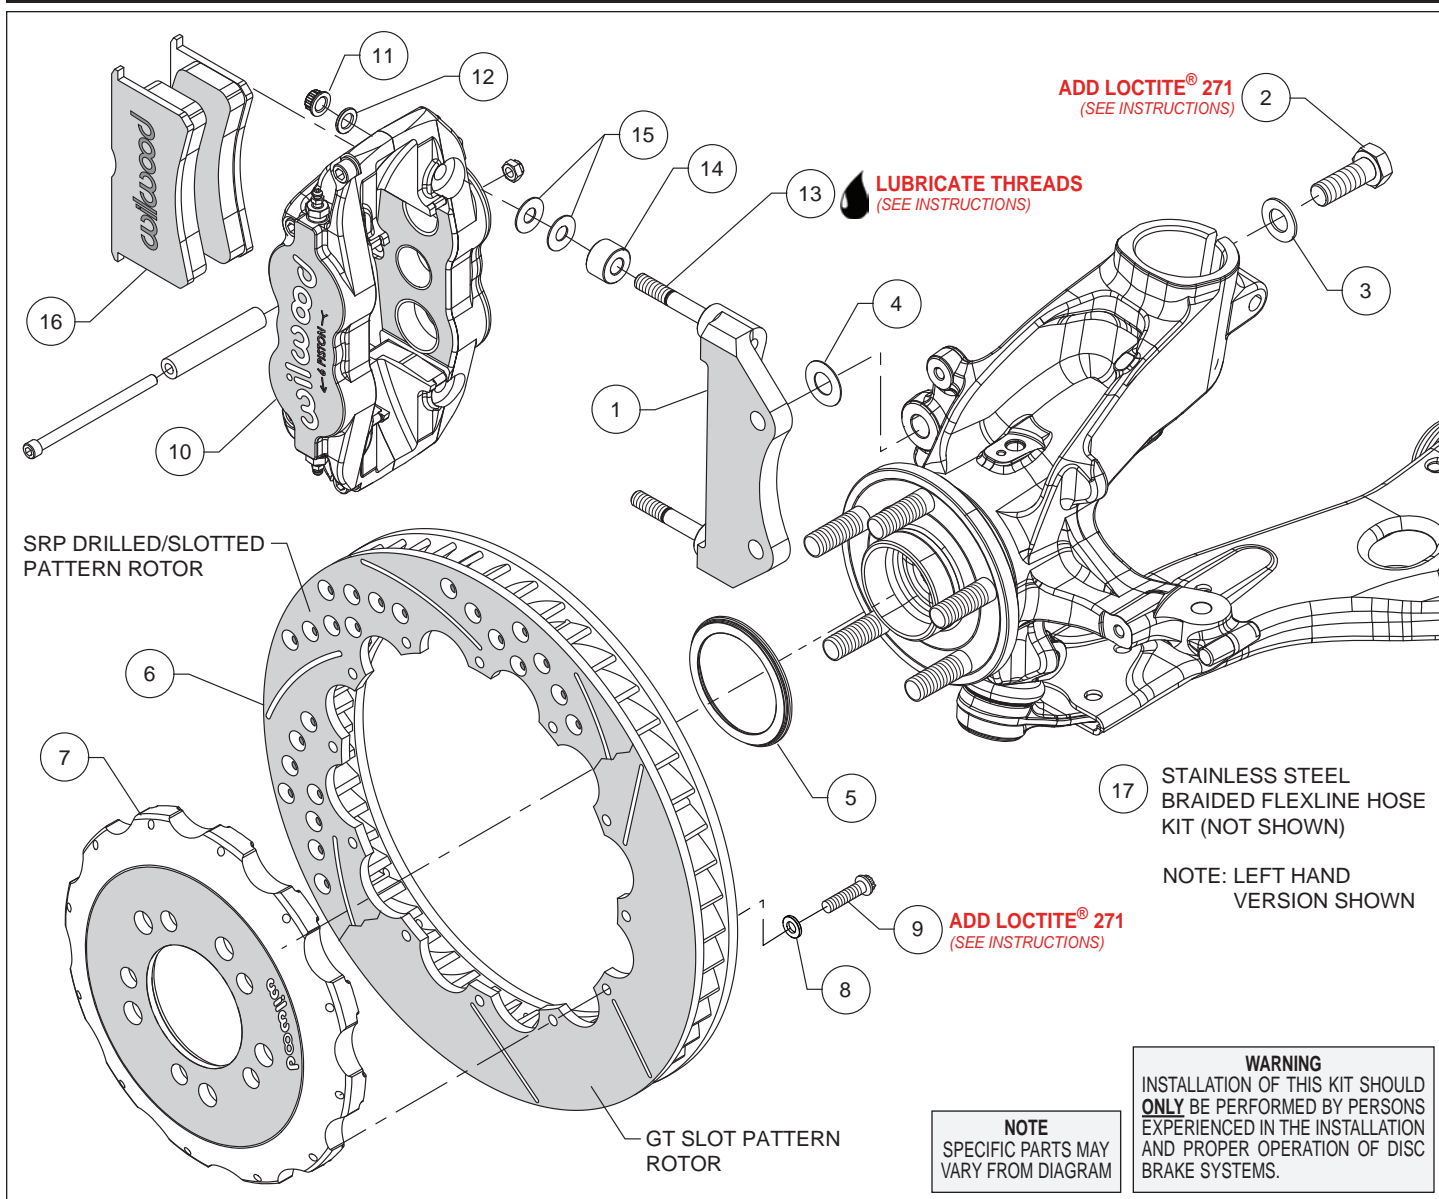
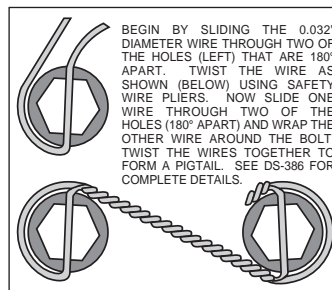

Figure 1. Typical Installation Configuration
Figure 3. Safety Wire Diagram
**Assembly Instructions** (numbers in parenthesis refer to the parts list and Figure 1 on the preceding pages):
- The caliper mount bracket (1) should initially be installed with clean, dry threads on the mounting bolts. Orient the bracket as shown in Figure 1 and Photo 1, and install using washers (3) and bolts (2). Initially place one .029 thick shim (4) on each bolt between the bracket and upright, Figure 1. Temporarily tighten the mounting bolts. **NOTE:** *The bracket must fit squarely against the mount bosses on the upright.* Inspect for interference from casting irregularities, machining ridges, burrs, etc. Later, after the caliper alignment has been checked, the mount bolts will be secured using red *Loctite*® 271.
- Orient the rotor (6) and the hat (7) as shown in Figure 1 and Photo 2. Attach rotor to hat using bolts (9) and washers (8). Using an alternating sequence, apply red *Loctite*® 271 to the threads, and torque to 155 **in-lbs**. For an added measure of security, the bolts may be safety wired using standard 0.032 inch diameter stainless steel safety wire as shown in Figure 3. Please refer to Wilwood's data sheet DS-386 (available at [www.wilwood.com/Pdf/DataSheets/ds386.pdf](http://www.wilwood.com/Pdf/DataSheets/ds386.pdf)) for complete safety wire installation instructions.
- Slide the rotor registration adapter (5) onto the axle register on the axle hub with the smaller O.D. facing outward, Photo 3. Slide the hat/rotor assembly onto the axle hub. **NOTE:** *The hat must fit flush against the axle hub flange or excessive rotor run out may result.* Install three lug nuts (finger tight) to keep the hat/rotor assembly in place while continuing with the installation.
- NOTE:** *This kit contains distinct right and left hand calipers that must be mounted in a specific direction, as described below.* Lubricate the caliper mounting studs (13) with lightweight oil. Initially place two .035" thick shims (15) and one spacer (14) on each stud as shown in Figure 1 and Photo 4. Mount the caliper (10) onto the bracket (1) using lock nuts (11) and washers (12), Figure 1. Ensure that the caliper is mounted so that the largest pistons are at the rotor exit end of the caliper, in relation to the direction of rotor rotation. Temporarily tighten the lock nuts and view the rotor through the top opening of the caliper. The rotor should be centered in the caliper, Photo 5. If not, adjust by adding or subtracting shims (4) between the bracket and the upright. Always use the same amount of shims on each of the two mounting bolts. Once the caliper alignment is correct, remove the bracket mounting bolts (2) one at a time, apply red *Loctite*® 271 to the threads, and torque to 60 ft-lb.